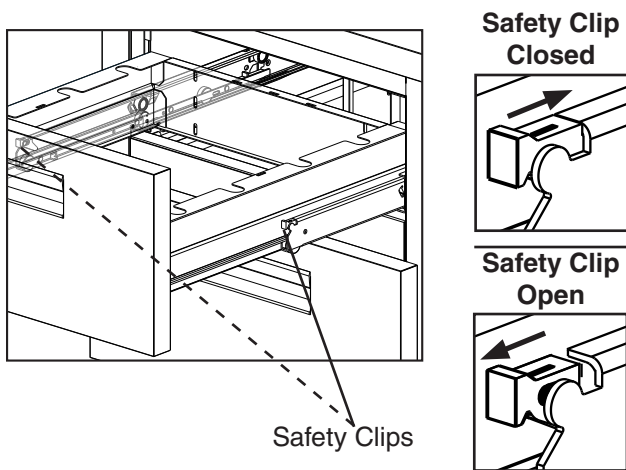

Fig. 4
- **To remove a drawer:** Remove all items from the drawer. Pull the drawer out to its fully extended position. Open the safety clips (one on each side) by sliding them forward. See Fig. 4. Lift up on the handle slightly, then pull to disengage the drawer. Be sure to support the rear and front of the drawer while removing it. **WARNING! Be sure to close the safety clips when reinstalling the drawer.**